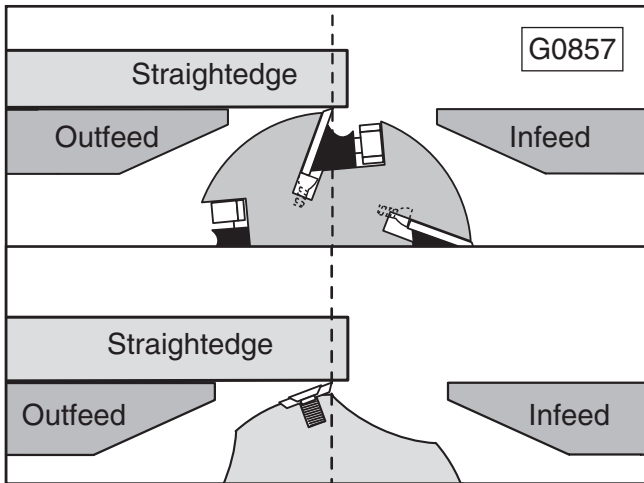

Figure 56. Using straightedge to check outfeed table height.
7. Use outfeed table lever to set outfeed table so knife or insert barely touches straightedge, as shown in **Figure 56**.